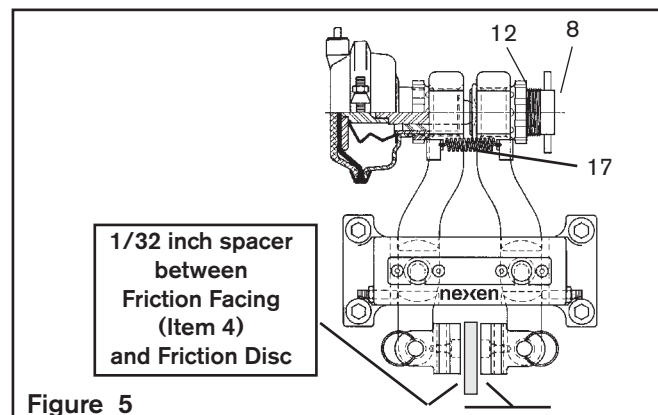

Figure 5
1. Loosen adjustment screw Spanner Nut (Item 12) (See Figure 5).
2. Loosen the Adjustment Screw (Item 8) until a 1/32 inch spacer can be slid between each of the Friction Facings (Item 4) and Friction Disc (See Figure 5).
3. Turn the Adjustment Screw (Item 8) in until the spacer can be just pulled out (See Figure 5).
4. Tighten the Spanner Nut (Item 12) to 13.6-20.3 Nm [10-14 ft-lb] torque (See Figure 5).
3. Loosen the adjustment screw Spanner Nut (Item 12) (See Figure 5).
4. Turn the Adjustment Screw (Item 8) until a 1/32 inch spacer can be slid between each of the Friction Facings (Item 4) and the Friction Disc (See Figure 5).